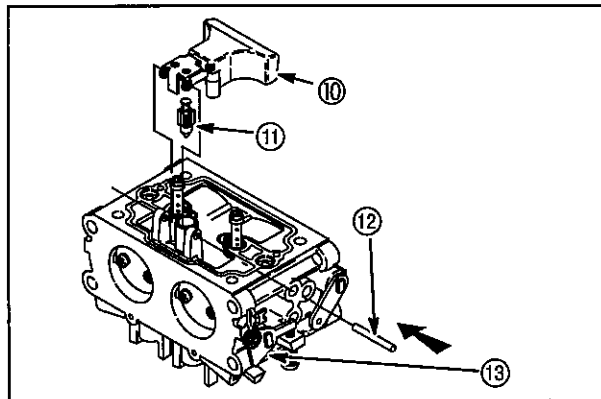

Fig. 70
6. Assemble inlet needle (11) to float (10). Install float assembly to carburetor body, **Fig. 70**. Install float hinge pin (12) from throttle lever (13) side.